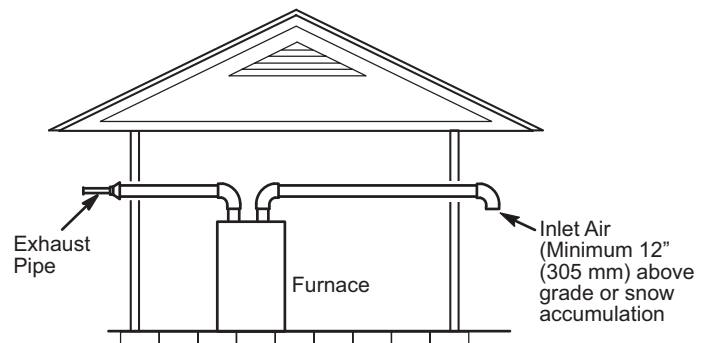
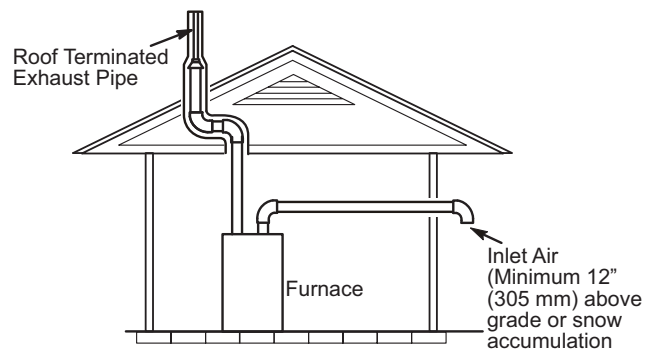

Figure 30. Exiting Exhaust and Intake Vent (No Common Pressure Zone)
Figure 31. Existing Exhaust and Intake Vent (No Common Pressure Zone)
1. Intake and exhaust terminations are not required to be in the same pressure zone. You may exit the intake on one side of the structure and the exhaust on another side (**Figure 30**). You may exit the exhaust out the roof and the intake out the side of the structure (**Figure 31**).